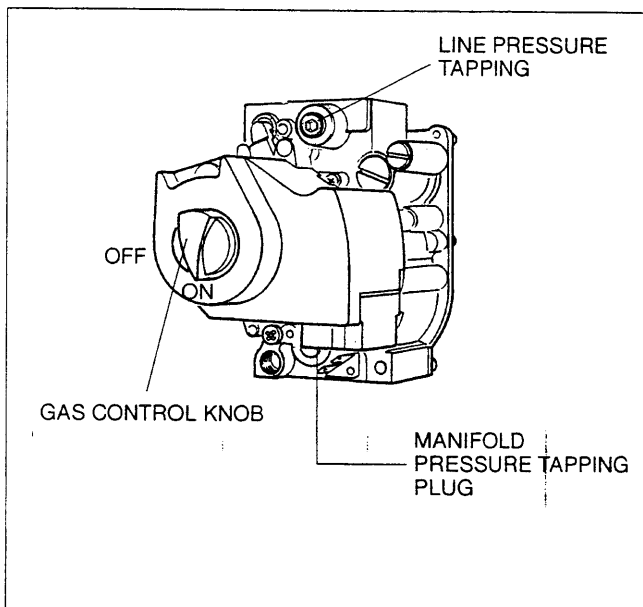

Fig.2
Turn the gas control manual valve clockwise  to the full "OFF" position, fig. 2.
30. Shut off the main gas supply shut-off valve. Remove the line pressure tapping plug from gas control, fig. 2; install a test fitting, and hook up a manometer so that line pressure can be checked.
31. Remove the manifold pressure tapping plug from the gas control, install a test fitting and hook up a manometer so that manifold pressure can be checked, fig. 2.